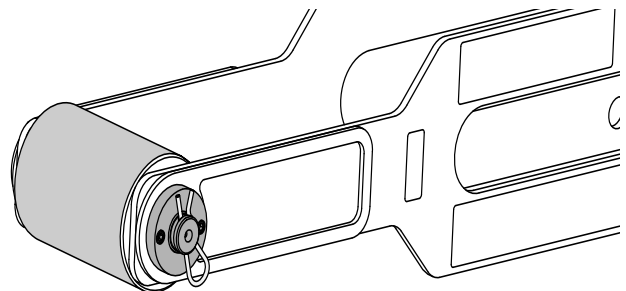

Figure 2
4. Attach the roller unit to the single prong ends of the connecting forks, with decals and markings facing out, and secure with the hitch pin clips. (Fig. 2)